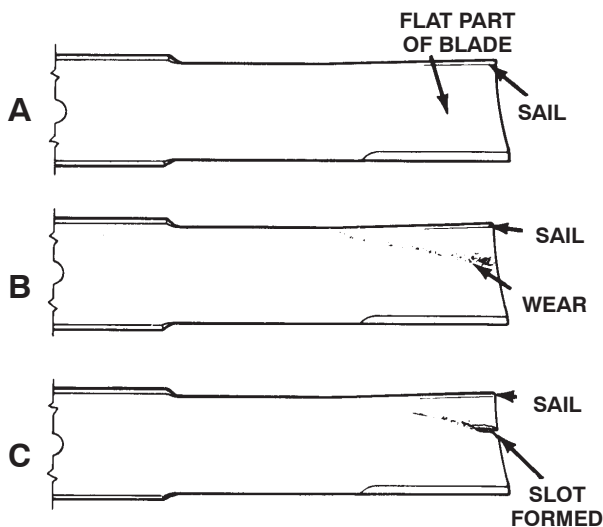

Figure 90
2. Examine the cutting ends of the blade carefully, especially where the flat and curved parts of the blade meet (Fig. 90-A). Since sand and abrasive material can wear away the metal that connects the flat and curved parts of the blade, check the blade before using the mower. If wear is noticed (Fig. 90-B), replace the blade.
If the blade is allowed to wear, a slot will form between the sail and flat part of the blade (Fig. 90-C). Eventually a piece of the blade may break off and be thrown from under the housing, possibly resulting in serious injury to you or bystanders.